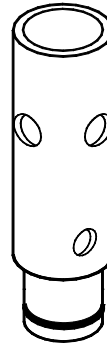

Fig. 6
1. For Models 108 & 704, remove the restrictor tube (Fig. 6) from the mix inlet holes and lay in the bottom of the mix pans. Note: Some units have these tubes welded in place